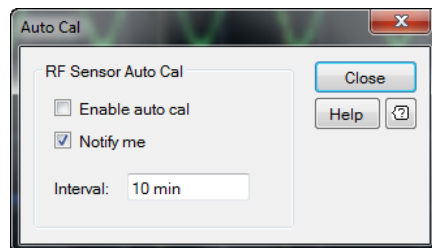

Figure 2-94 Auto Cal dialog
- 2 The Auto Cal dialog is displayed as shown in Figure 2-94.